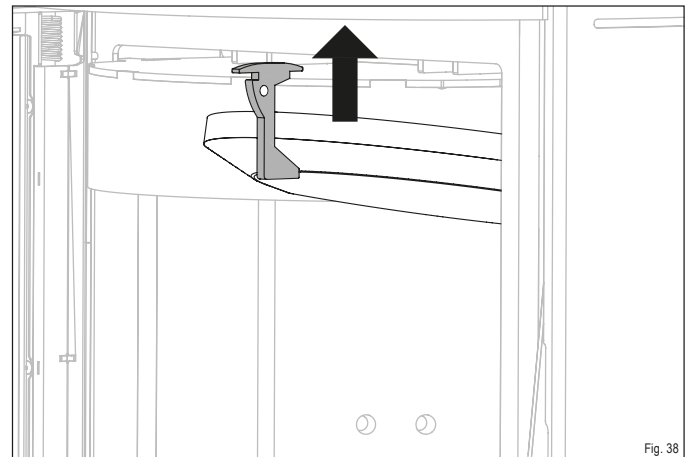

Fig. 38
- ▶ Slide the firebrick retainer upward (Fig. 38).